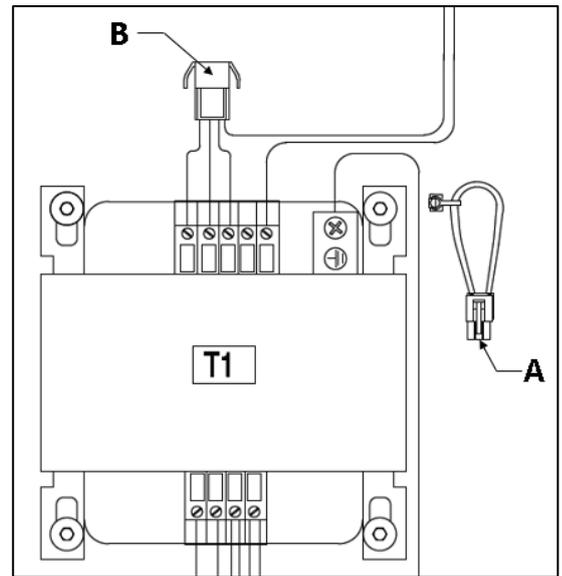

Fig. 5.7
- Connect the voltage selector switch (Fig. 5.7/A) onto the T1 transformer connector (Fig. 5.7/B), as shown in **table 1**, in accordance with the mains supply.